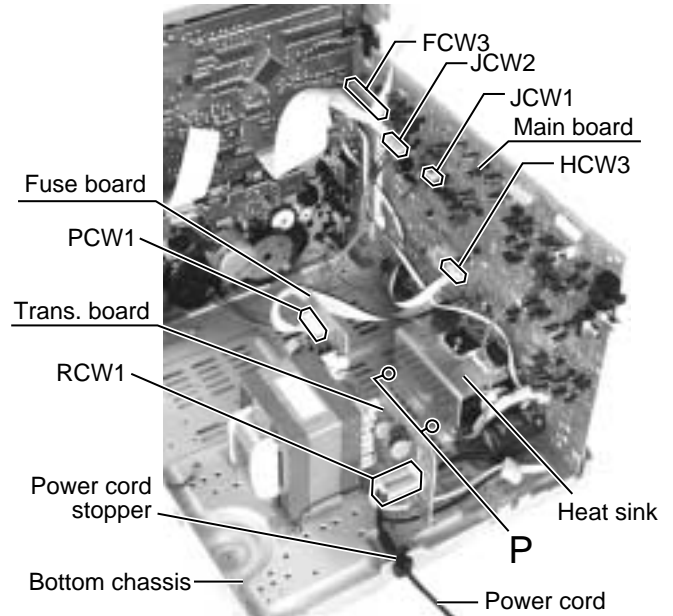

Fig.14
■ Removing the main board (See Fig. 14)
■ Removing the power cord (See Fig. 14)